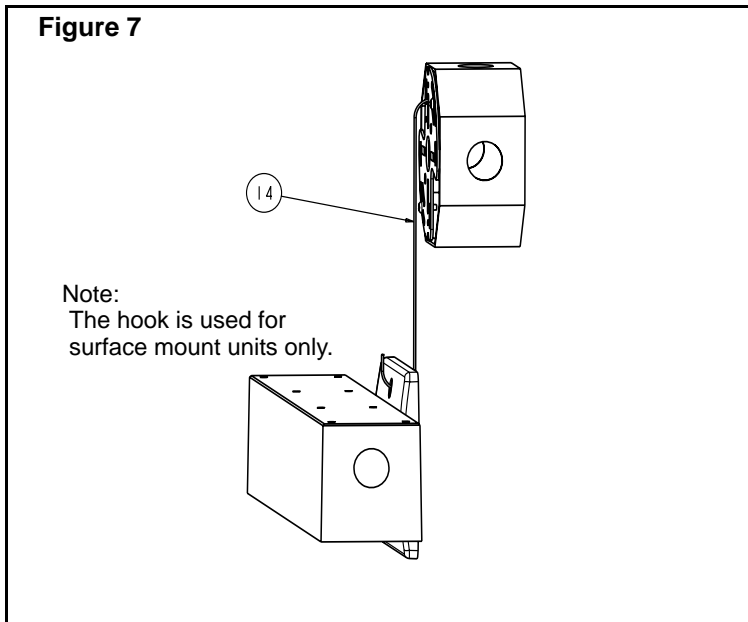

Figure 7
| | 14. Hook (refer to fig.7) |
4. **Electrical connection (Figures 7,8,9)**